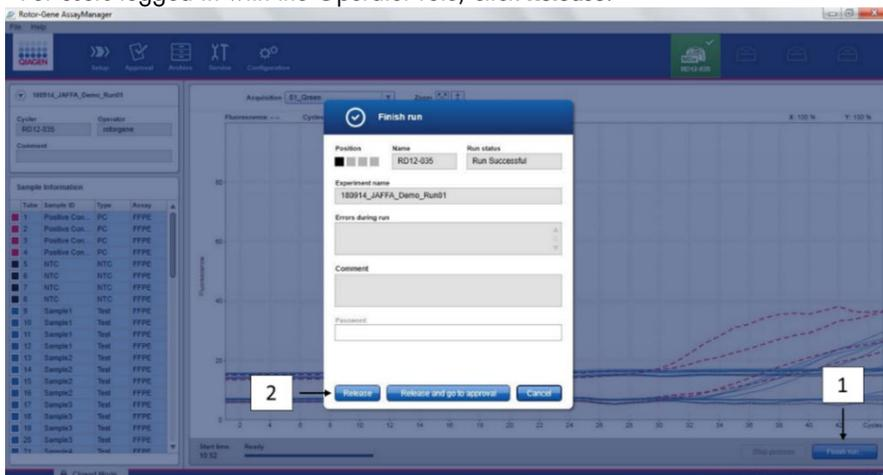

Figure 15. Finalization of the run. Finish run (1) and Release run (2)
32. After the run is complete, click **Finish run** (Figure 15).